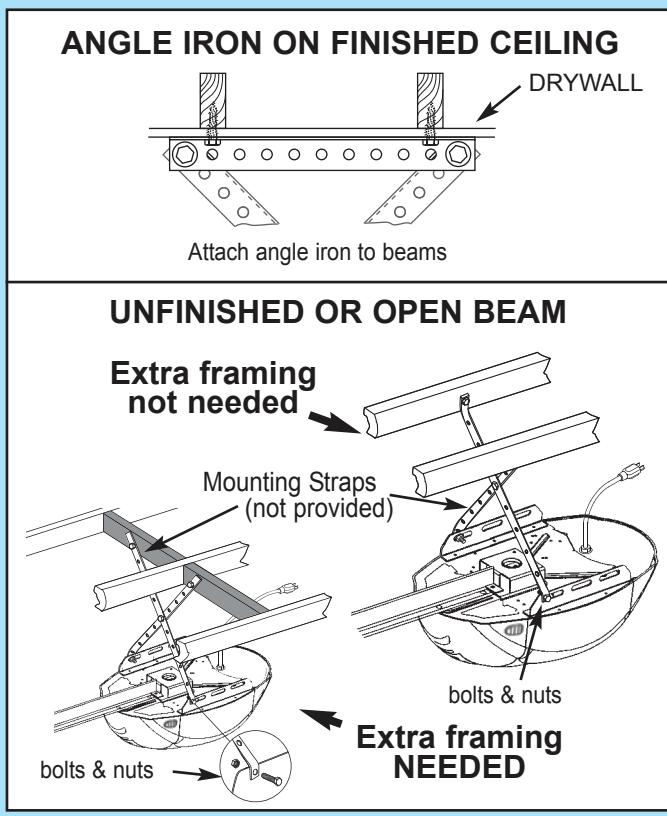

FIG. 2-6 Mounting the power head
- On **finished** ceilings, locate ceiling joists or trusses using a stud finder or similar device. Attach angle iron (not provided) to joists or trusses through finish material using (provided) lag screws (Fig. 2-6).
- On **unfinished** ceilings or open ceilings, straps may attach directly to joists or trusses. Depending on the garage construction, extra framing material (not provided) which may be required should be installed using appropriate construction techniques (Fig. 2-6).
- Attach mounting straps (not provided) to ceiling using lag bolts (Fig. 2-6).
- Set height of power head to following (Fig. 2-6).